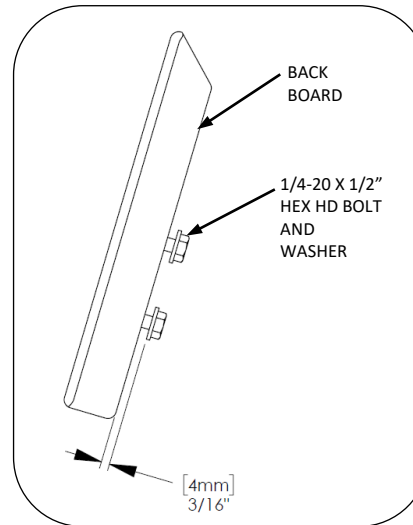

Fig. 5 – install screws on back board
5. Install 1/4-20 x 1/2" hex head bolts and washers into back board at all 9 threaded insert locations, see Fig. 5. Do not fully tighten – leave approx. 1/4" between board and underside of bolt head.